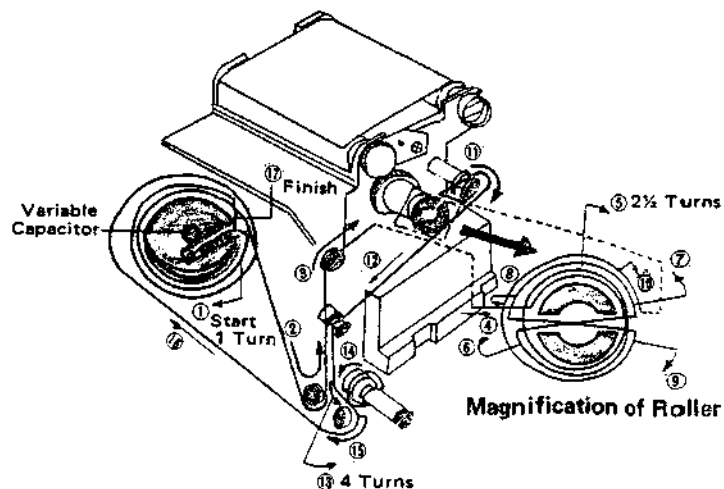

Fig. 31
2. Set the variable capacitor to minimum capacity previously and fit dial cord according to the arrow marks indicated in Fig. 31. (length of dial cord is 900m/m)